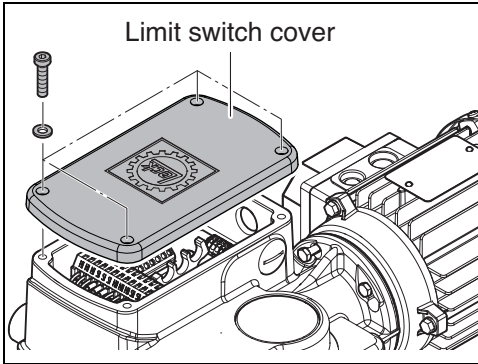

Fig. 31
- ▶ Remove the limit switch cover, (see Fig. 31). Use a Phillips screwdriver PH2, size 6.5.